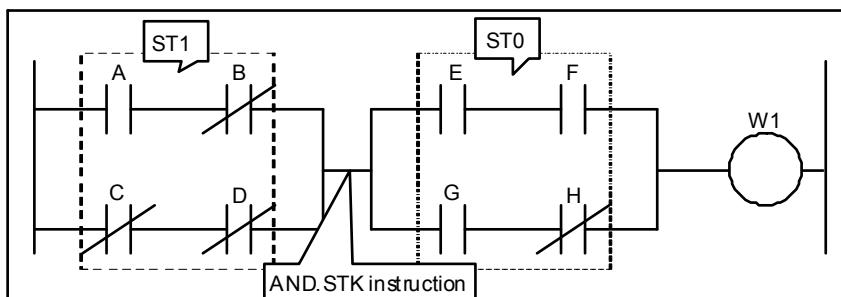

Fig. 4.1.12 (b)
- (1) The AND.STK instruction finds the logical product of the operation result stored in the ST0 bit and that stored in the ST1 bit and sets it in the ST1 bit. The instruction then shifts the register content one bit to the right and puts the resulting logical product into the ST0 bit. Fig. 4.1.12 (b) shows a detailed image of what is shown in Fig. 4.1.12 (a).
- (2) For examples of how the AND.STK instruction is used, see Fig. 4.1.12 (a) and Table 4.1.12.